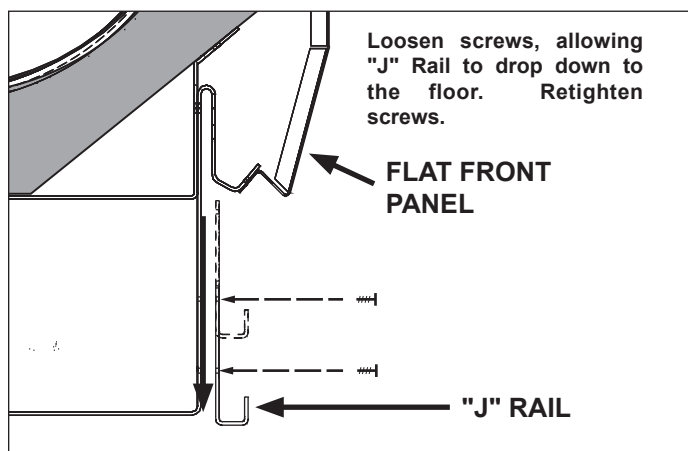

Fig. 6 "J" rail installation
9. The "J" rail (Fig. 6) is shipped attached to the case as shown. Loosen screws holding "J" rail to allow it to slide down and fit flush with the floor. Re-tighten screws.